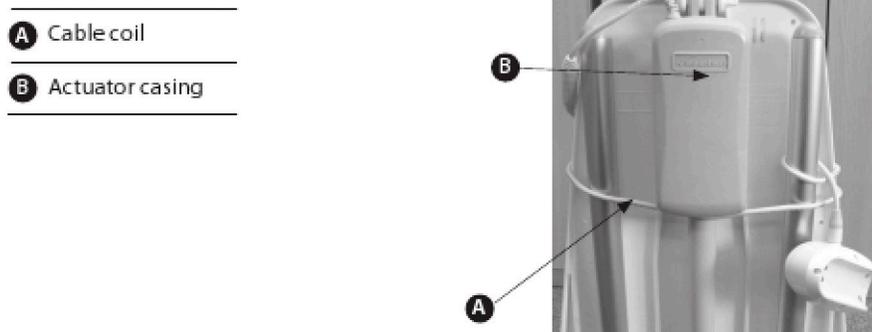

fig 9
6. Stand the bath lift upright, then wrap the hand control cable clockwise around both the seat and tubes, ensuring the cable coil is positioned underneath the actuator casing. Now loop the remainder of the cable around one of the tubes (see fig 9).